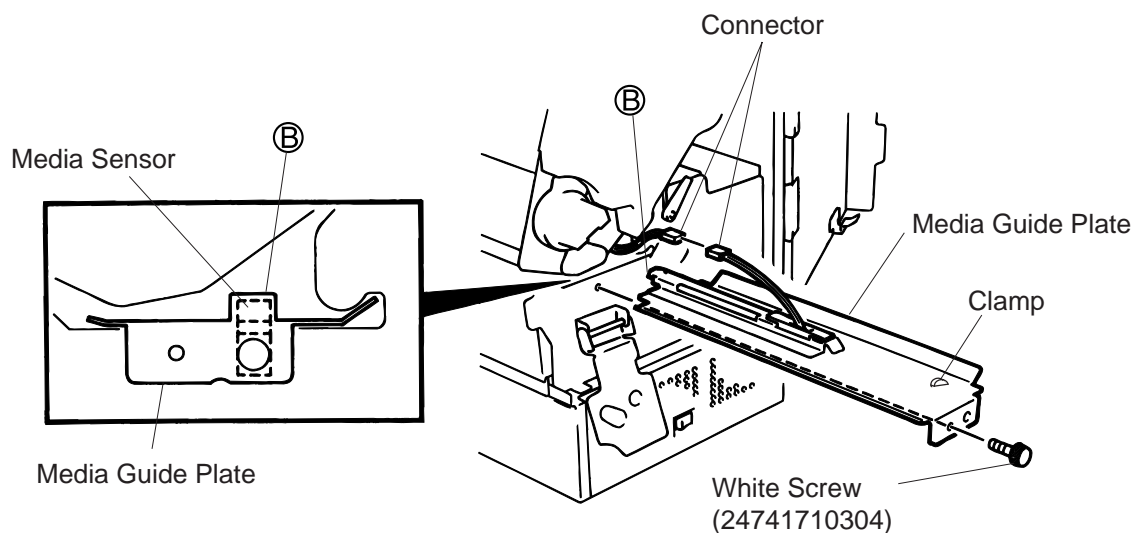

Fig. 12-5
4. Remove the white screw, unclamp and disconnect the connector of the media guide plate, and then detach the media guide plate. (See Fig. 12-5.)
8. Place the portion ⑧ of the media guide plate on the media sensor. Secure the media guide plate with the white screw.